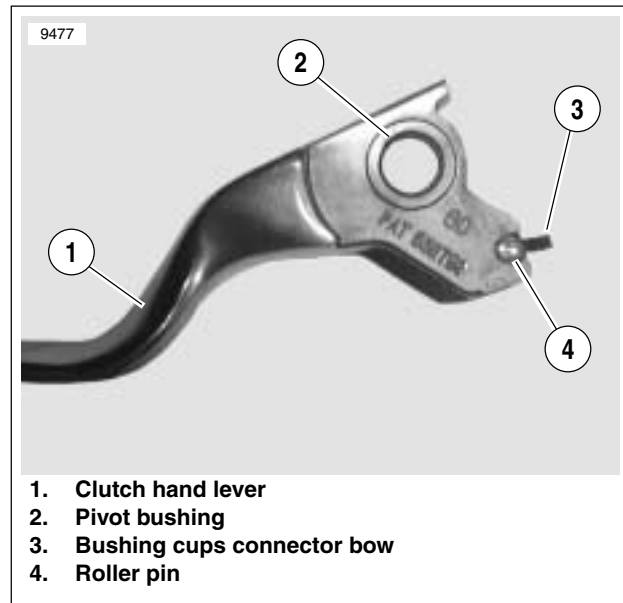

Figure 2-21. Clutch Hand Lever
1. See Figure 2-21. Slide bushing cups onto pins of roller with cup flanges against roller.